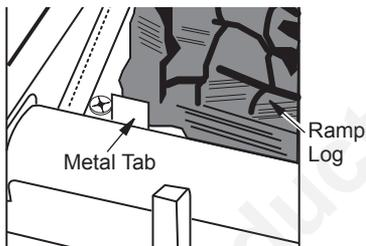
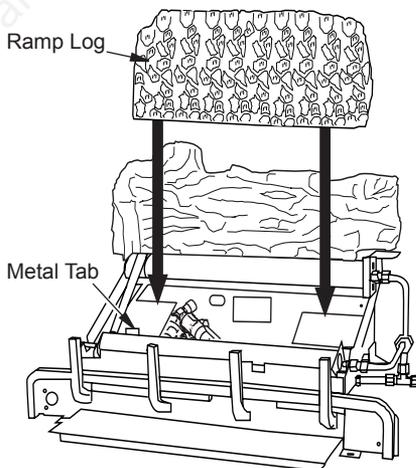

Figure 25 - Installing Log Set
Figure 30 - Installing Ramp Log
2. The log must sit flat on the black sheet metal and behind the left metal tab as shown in Figure 25.
- Place ramp log in center of base assembly as shown in Figure 30. Make sure the side marked **BOTTOM** is setting down on the base. The log will sit behind the metal base as shown in Figure 25, page 19.